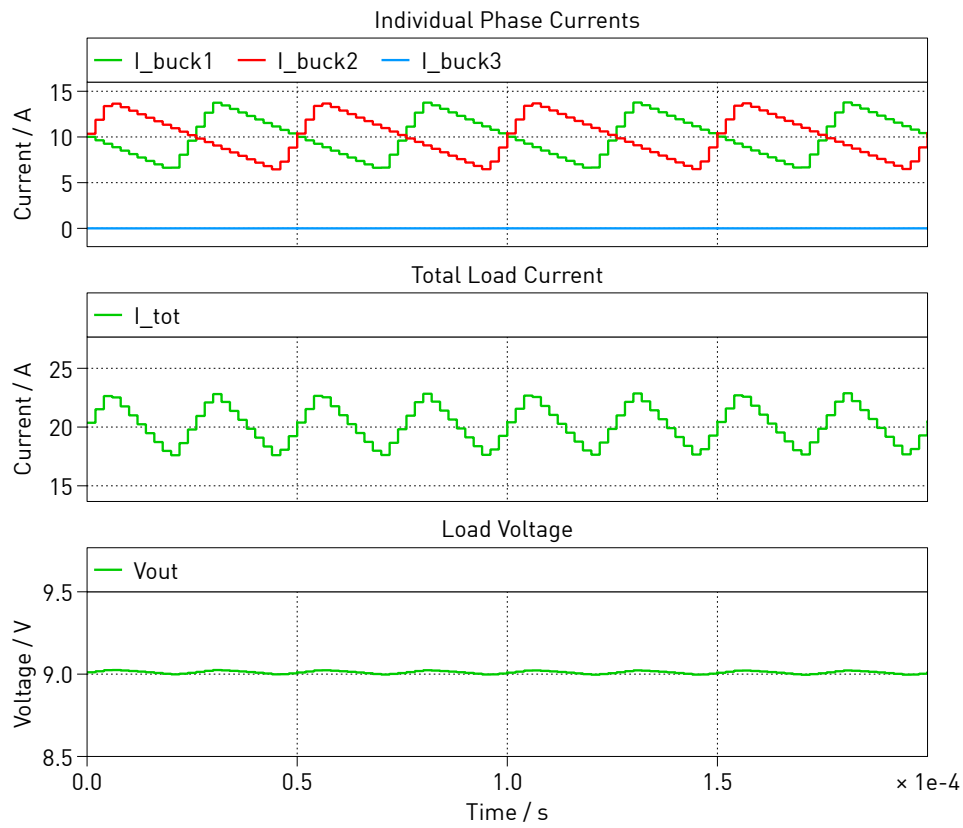

Fig. 5: Simulation result with two active phases
- Next under External Mode, one can change the Constant block controlling the load step inside the Controller Box from the default [1 1] to [1 0]. This increases the load resistance, therefore decreases the load current. The real-time simulation waveforms should look like in Fig. 5 on p. 6. In